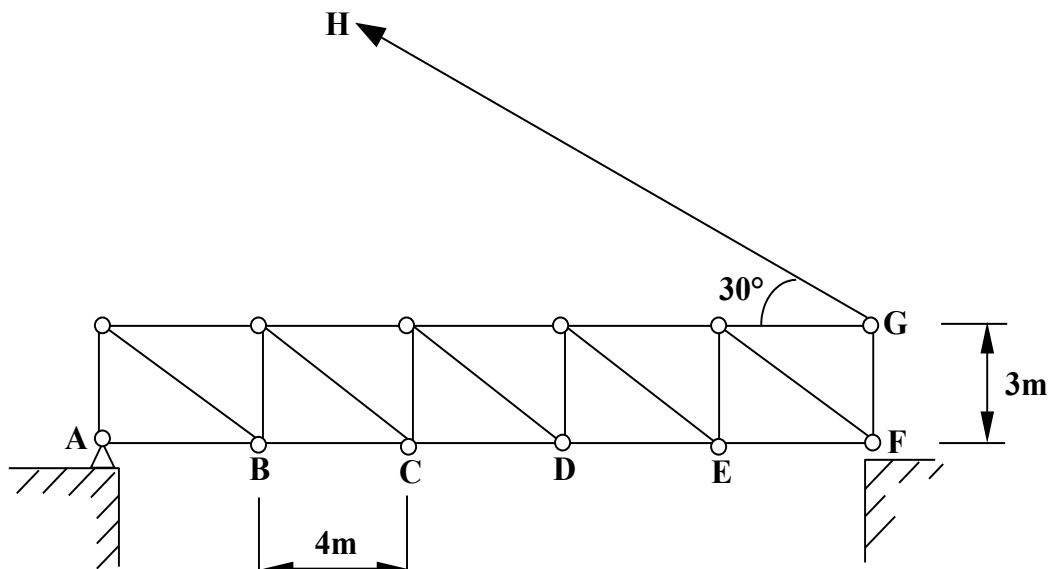

Figure 2
2. The self-weight of the regular truss shown in Fig. 2 may be represented by forces of 5 kN at each of the lower joints A-F. The truss is just lifted off its support at F by the rope GH. Determine the direction of the resultant reaction provided by the support at A, the axial force in the rope, the magnitude of the reaction at A, and the axial force in the member CD.